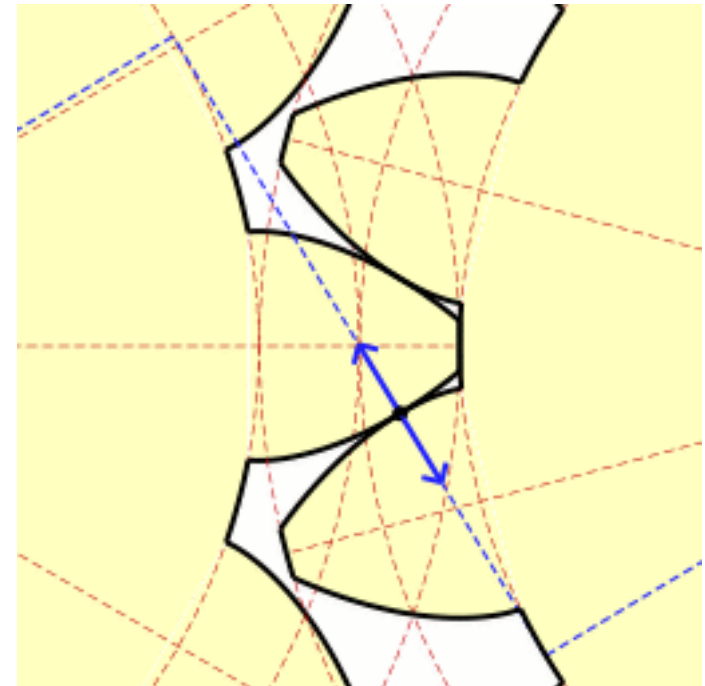

Figure 8-9 Involute Profile Animation.
- The instant center of velocity between the two bodies remains *stationary* between the grounded instant centers as shown in Figure 8-9: